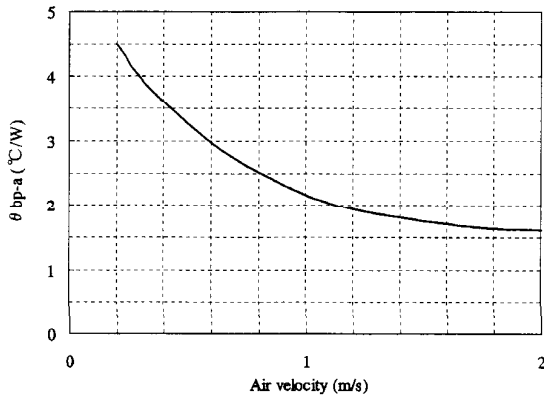

Fig.1-3 Thermal resistance at Baseplate – Air vs Air velocity (typical value)
Fig. 1-3 indicates thermal resistance value between baseplate and air at standard vertical mounting.
Air Velocity is as shown in Fig.1-3
- 1) Data shown in Fig.1-3 to 1-6 is the typical value and it changes depends on measurement condition. Recommend to design with sufficient margin against calculation value.